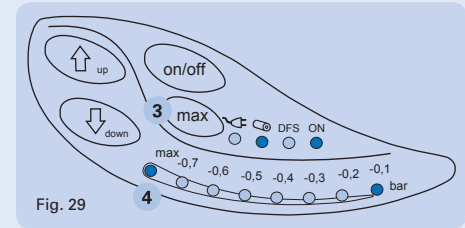

Fig. 29
- If you require the maximum vacuum quickly, press the 'max' button (fig. 29 (3)). You can also set the maximum vacuum by pressing the 'up' button several times.
- The preselection of the maximum vacuum is signaled via a red LED for 2 seconds (fig. 29 (4)).